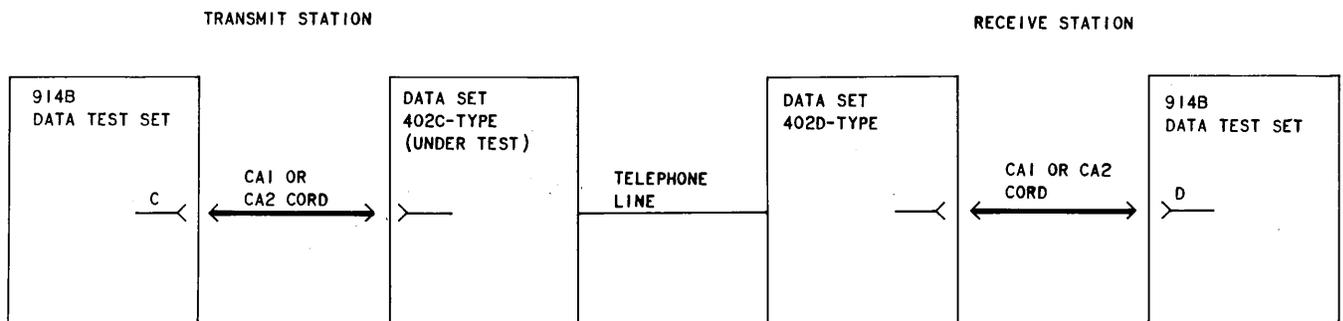

Fig. 5—Dynamic Test of Data Sets 402D- and 402C-Types Using 914B Data Test Set—Block Diagram
3.25 Figure 5 shows the type of overall arrangement to be made when performing an end-to-end test. The attendant at the transmit station establishes communications between the two stations by using the telephone portion of the data set, then both stations agree to go into the data mode of operation. If the receive station should desire to go into the talk mode before the test is completed, arrangements should be made between the two stations for the attendant at the receive station to signal the transmit station of such a request by use of the reverse-channel switch (S1 to OFF on the 914B DTS).